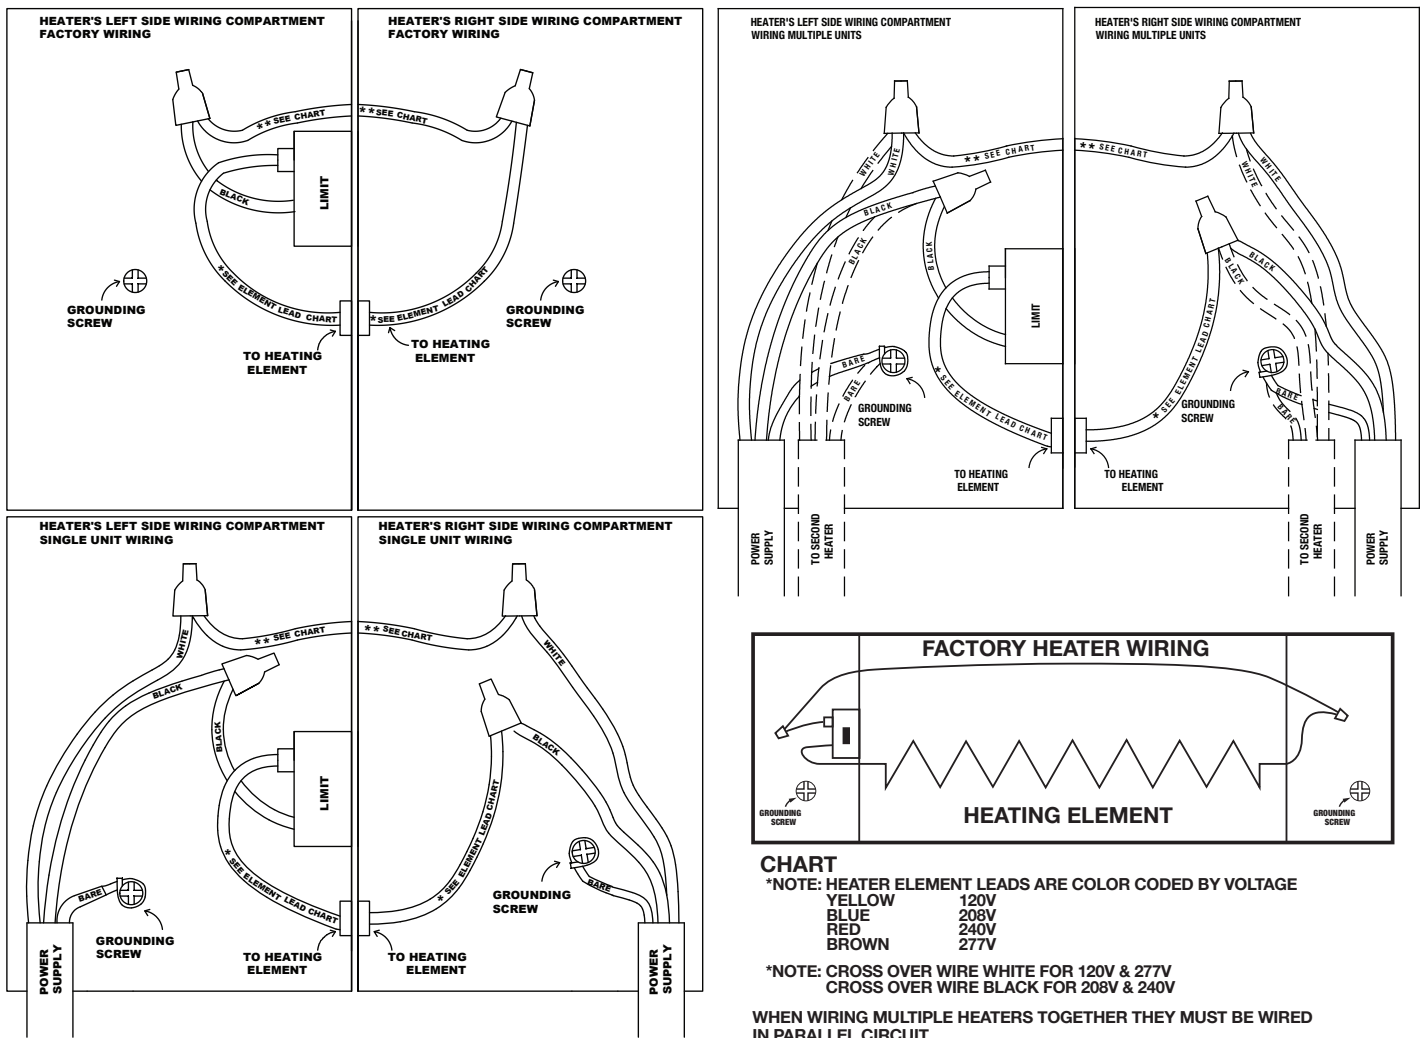

Figure 5: Wiring Diagrams
2. Wiring procedures and connections must be in accordance with the National Electrical Code (NEC) and local codes. Refer to Wiring Diagrams Figure 5. Make sure all electrical connections are tight to prevent possible overheating. Use Copper Supply Wire Only.
- c. Wire heater according to wiring diagrams in Figure 5. Attach the wireway cover using the screws.
- Follow the desired wiring diagram, as shown in Figure 5, to connect the power supply to the heater using approved wire nuts.